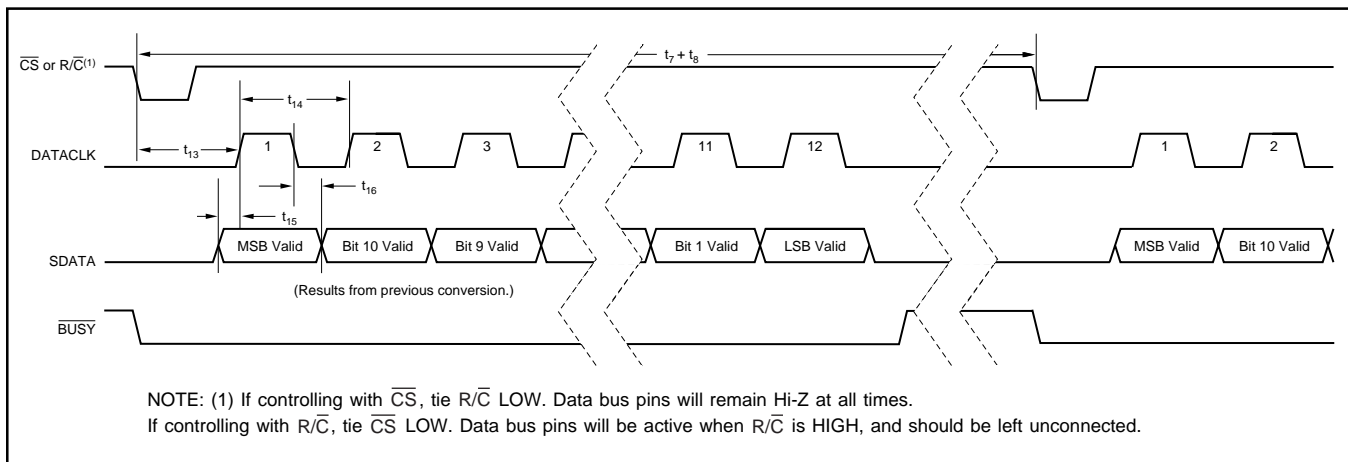

FIGURE 4. Serial Data Timing Using Internal Data Clock (TAG tied LOW).
NOTE: (1) See Figures 4, 5, and 6 for constraints on data valid from conversion 'n - 1'.
To use the internal data clock, tie  $\text{EXT}/\overline{\text{INT}}$  (pin 8) LOW. The combination of  $R/\overline{C}$  (pin 22) and  $\overline{\text{CS}}$  (pin 23) LOW will initiate conversion 'n' and activate the internal data clock (typically a 900kHz clock rate). The ADS7806 will output 12 bits of valid data, MSB first, from conversion 'n - 1' on SDATA (pin 19), synchronized to 12 clock pulses output on DATACLK (pin 18). The data will be valid on both the rising and falling edges of the internal data clock. The rising edge of  $\overline{\text{BUSY}}$  (pin 24) can be used to latch the data. After the 12th clock pulse, DATACLK will remain LOW until the next conversion is initiated, while SDATA will go to whatever logic level was input on TAG (pin 20) during the first clock pulse. Refer to Table VI and Figure 4.